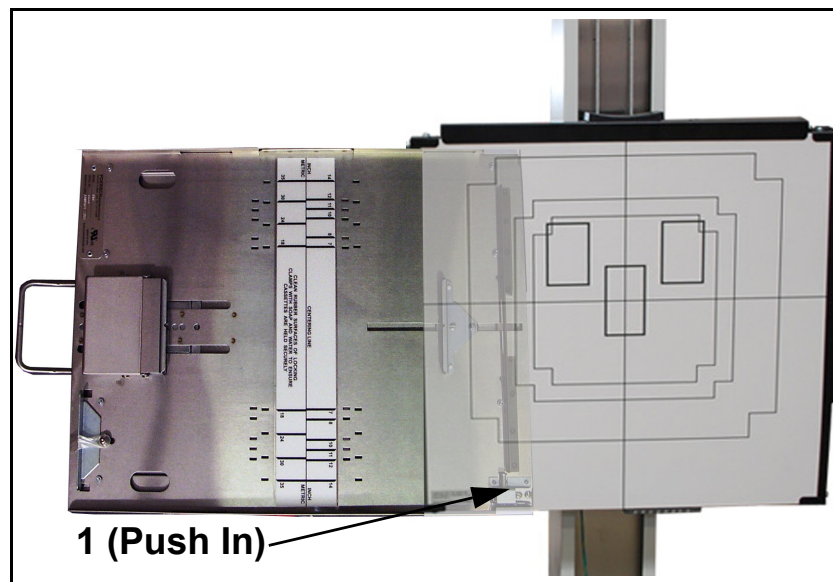

Figure 3-8. Cassette Tray Removal
- 2 While firmly pressing the cassette tray release latch (1 in Figure 3-8), pull the cassette tray completely out of the bucky.